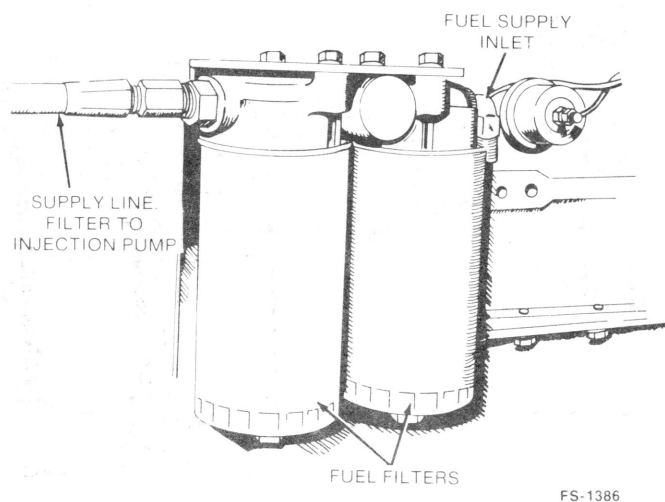

FIGURE 20. FUEL FILTERS
1. Remove each fuel filter (Figure 20) and fill with clean fuel.